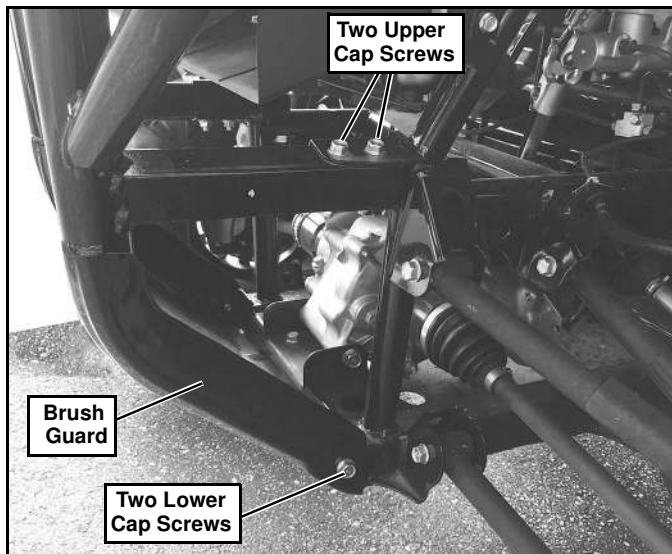

Figure 1
1. Remove the (2) lower Cap Screws (one on each side) holding the brush guard to the frame. (See Figure 1.)
5. On the drivers' side remove the upper (2) Cap Screws holding the brush guard to the frame. (See Figure 1.)